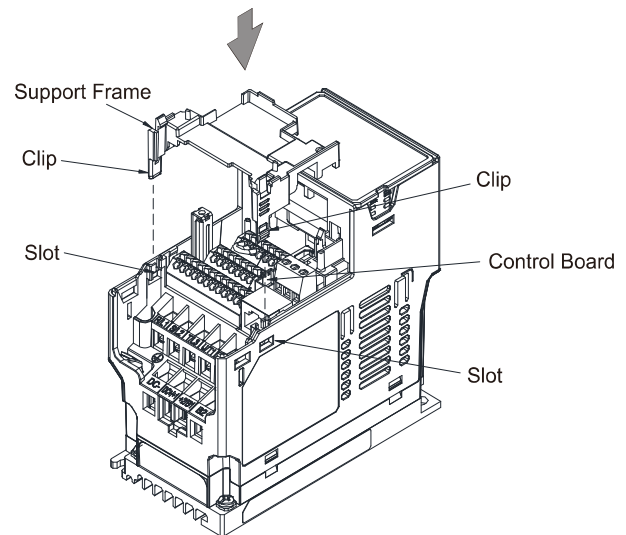

Figure 8-10
3. Assemble the supported frame of the option card: Aim the two clips at the two slots on the motor drive, and then press downward to have the two clips engage the slots, as shown in Figure 8-10.